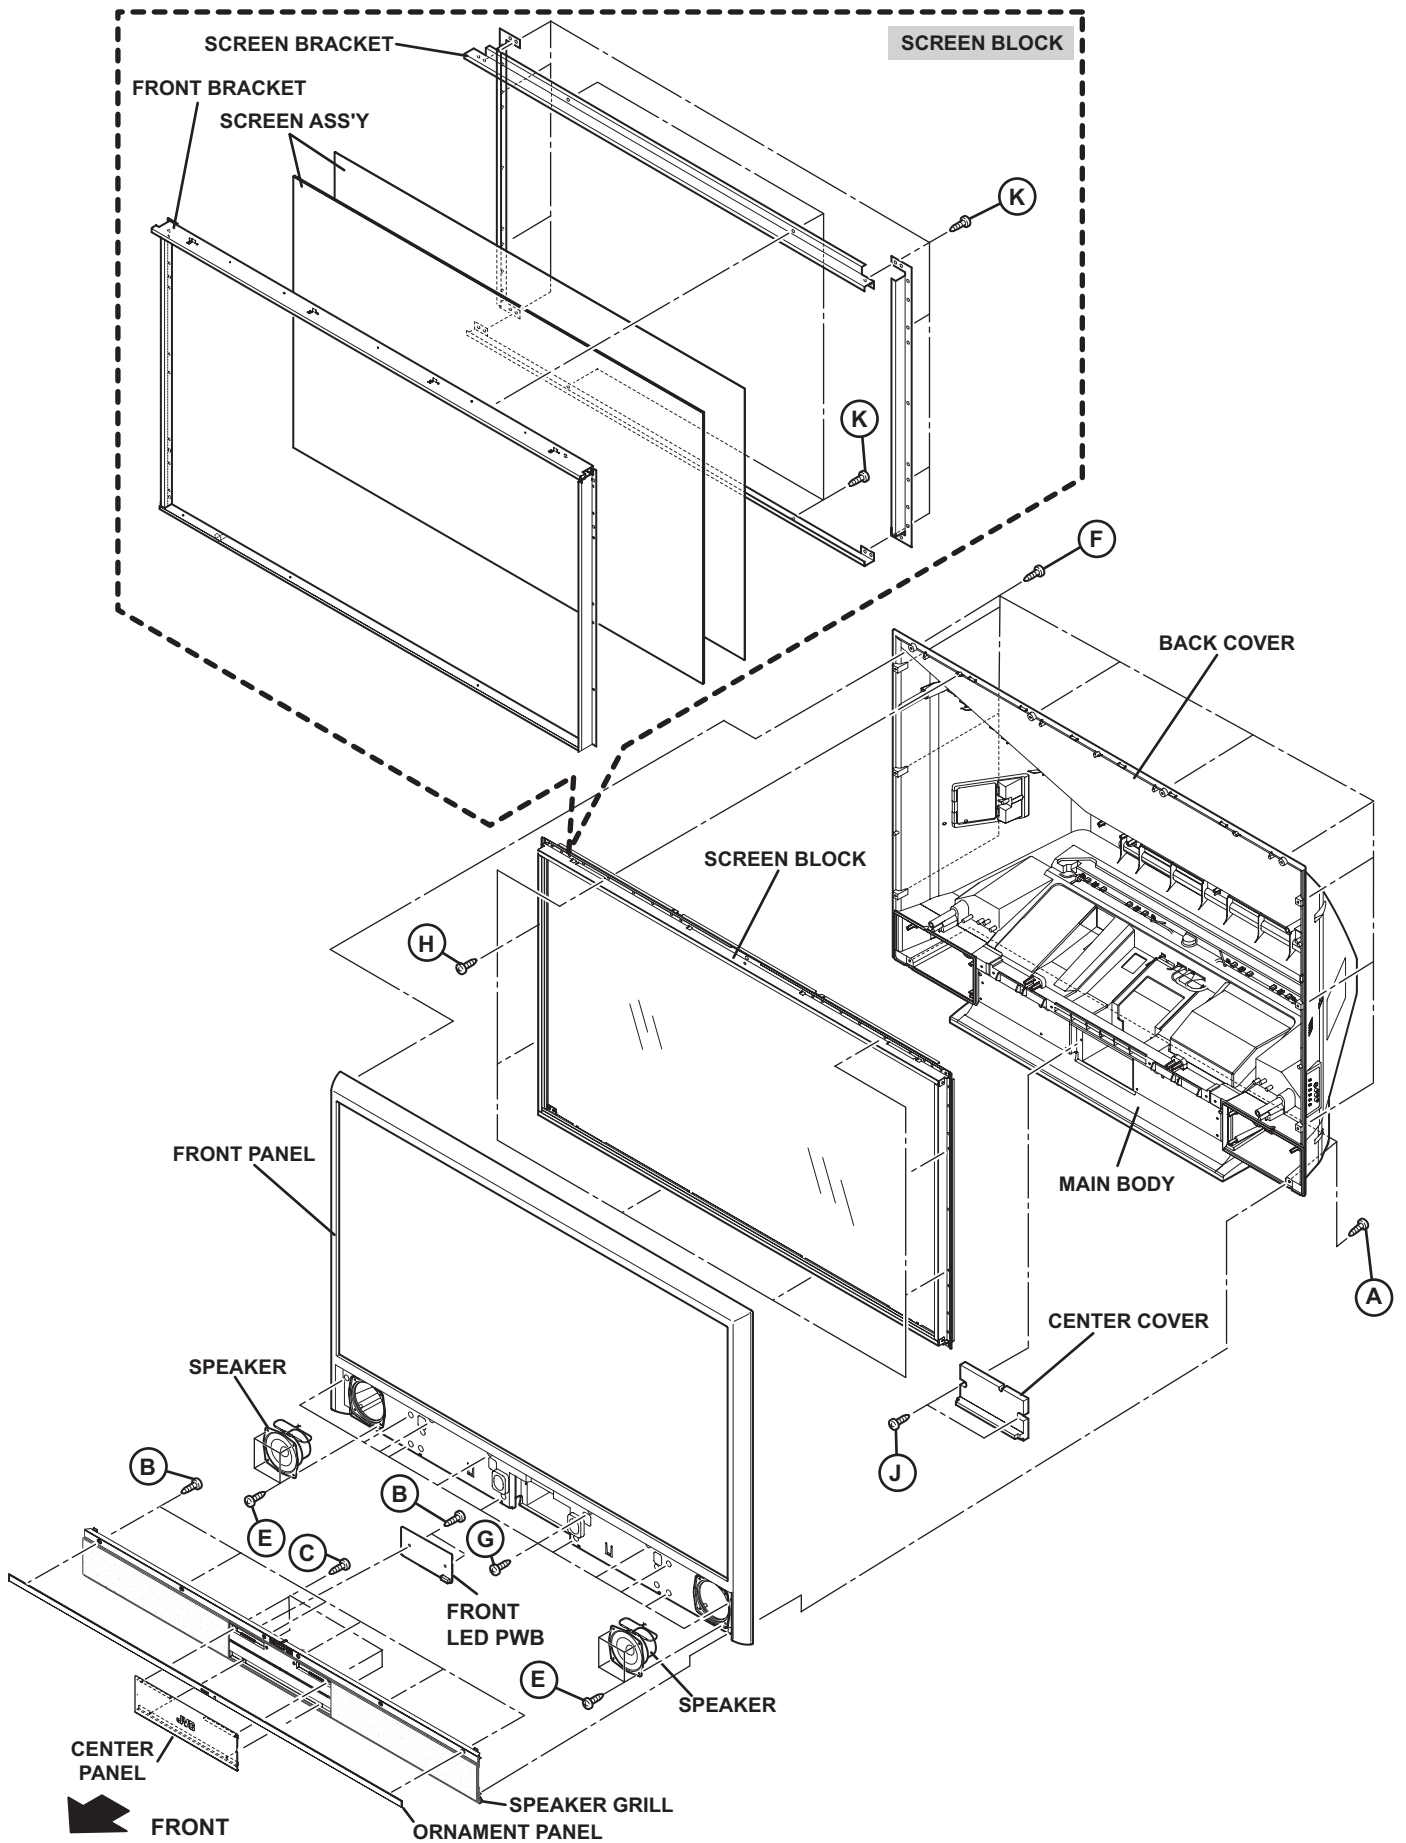

Fig.1
3.1.1.1 REMOVING THE SPEAKER GRILL (Fig.1)
3.1.1.2 REMOVING THE ORNAMENT PANEL (Fig.1)
- (1) Remove the 6 screws [B].
- (2) Remove the ORNAMENT PANEL.
3.1.1.3 REMOVING THE CENTER PANEL (Fig.1)
- (1) Remove the 4 screws [C].
- (2) Remove the CENTER PANEL.
3.1.1.4 REMOVING THE FRONT LED PWB (Fig.1)
3.1.1.5 REMOVING THE SPEAKER (Fig.1)
3.1.1.6 REMOVING THE CENTER COVER (Fig.1)
- (1) Remove the 2 screws [F].
- (2) Remove the CENTER COVER.
3.1.1.7 REMOVING THE FRONT PANEL (Fig.1)
3.1.1.8 REMOVING THE SCREEN BLOCK (Fig.1)
3.1.1.9 REMOVING THE SCREEN ASS'Y (Fig.1)